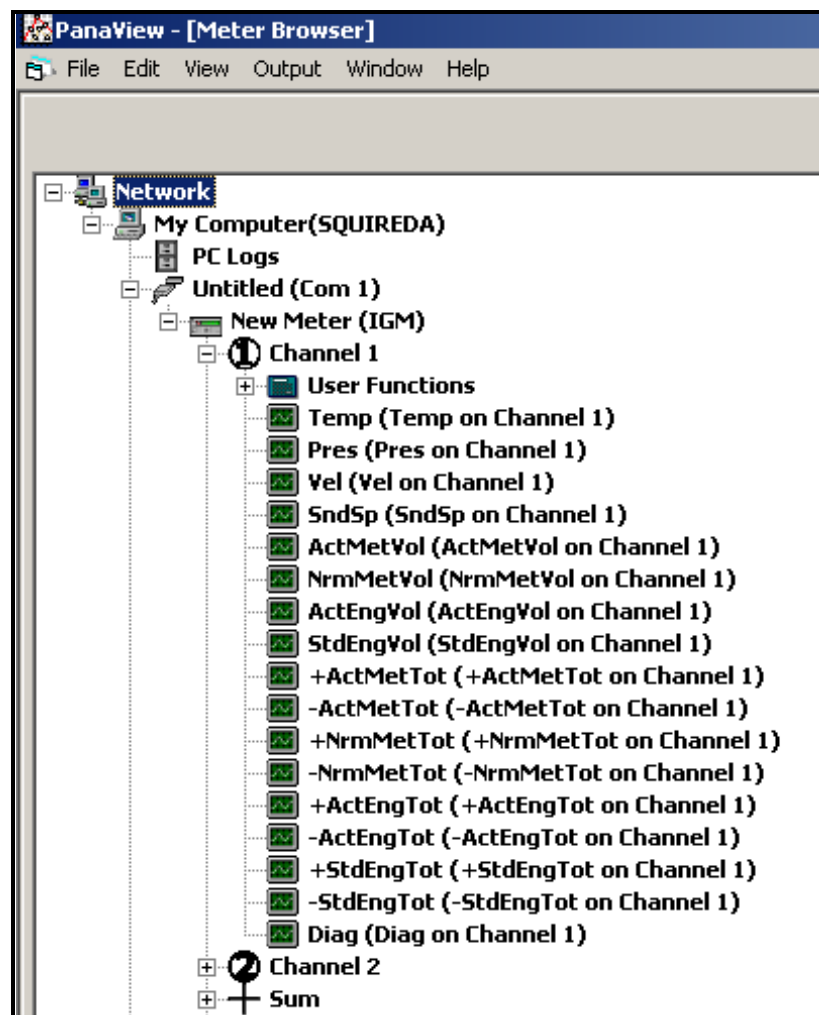

Figure 36: *PanaView*[™] Output Menu
4. Click on the + sign before each level to open it (see Figure 36 below and Table 39 on page 37 for an explanation of terms).